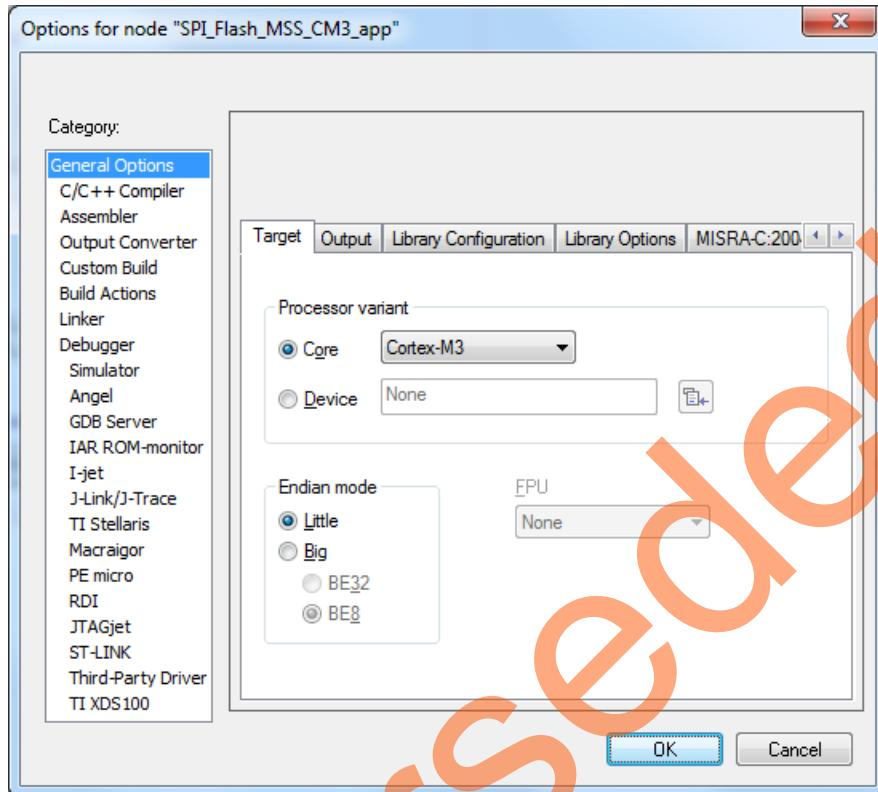

Figure 28 • IAR Node Options
13. The Options for node SPI_Flash_MSS_CM3_app window is displayed as shown in Figure 28.